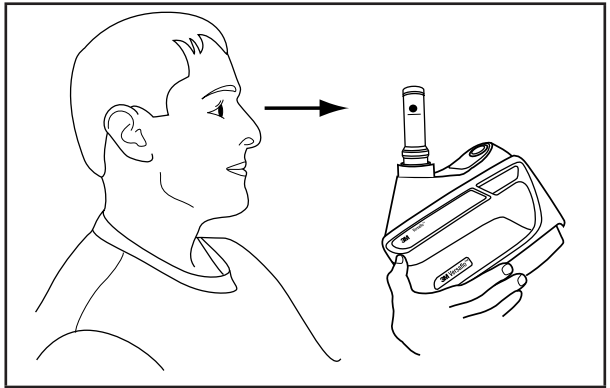

Fig. 15-2 Checking airflow
- With the airflow indicator in a vertical position, ensure that the bottom of the floating ball rests at, or above, the minimum flow mark for the 'letter' representing your 'Zone' (Fig. 15-2). Airflow indicator must be in the vertical position for an accurate reading.